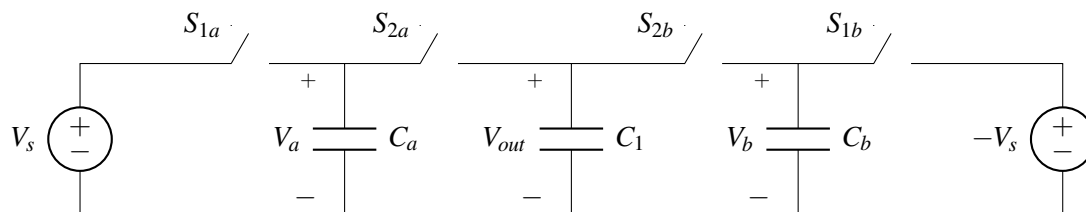

Figure 9.1: The circuit for the electronic level
The circuit in Fig. 9.1 produces a voltage  $V_{out}(k)$  at time  $k$  that depends on  $\alpha$  through the capacitances  $C_a(\alpha), C_b(\alpha)$ . The timing diagram (Fig. 9.2) shows the state of the switches as a function of time  $k$ . **At time  $k = 0$  all of the capacitors are completely discharged, meaning that  $V_{out}(0) = 0V$ .**
- (a) (5 points) We define  $Q_a = C_a V_a$ ,  $Q_b = C_b V_b$  and  $Q_1 = C_1 V_{out}$ , per the labels in Figure 9.1. **Find an expression for the total charge on the capacitors  $Q_{tot}(k) = Q_a + Q_b + Q_1$  at time  $k = 1$  as a function of  $\alpha$ ,  $\alpha_{ref}$ ,  $C_o$ ,  $C_1$ , and  $V_s$ .** At time  $k = 1$ , all switches have been closed and opened once and are now in the open state. Show all your work.